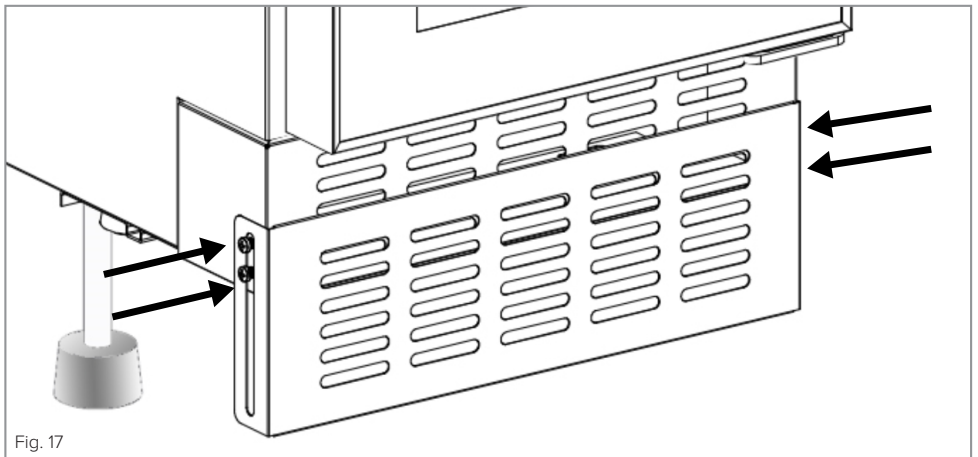

Fig. 17
- Loosen the two screws on each side of the plinth trim (four altogether - Fig. 17).